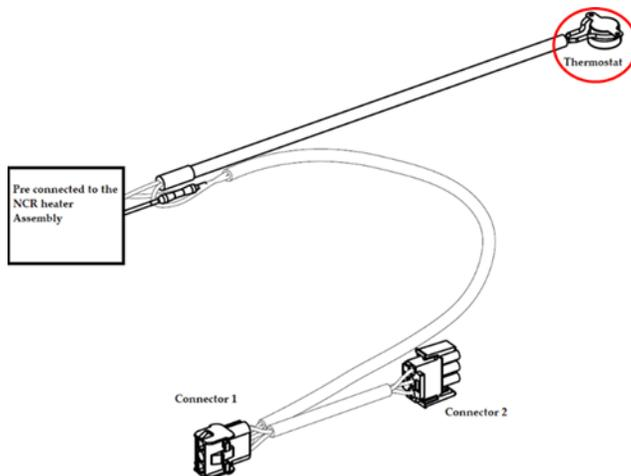

Figure 126
10) Secure thermostat (identified in Figure 126) to any available hole or slot along the bottom of the NCR heater assembly using a provided cable tie (006-8616073).